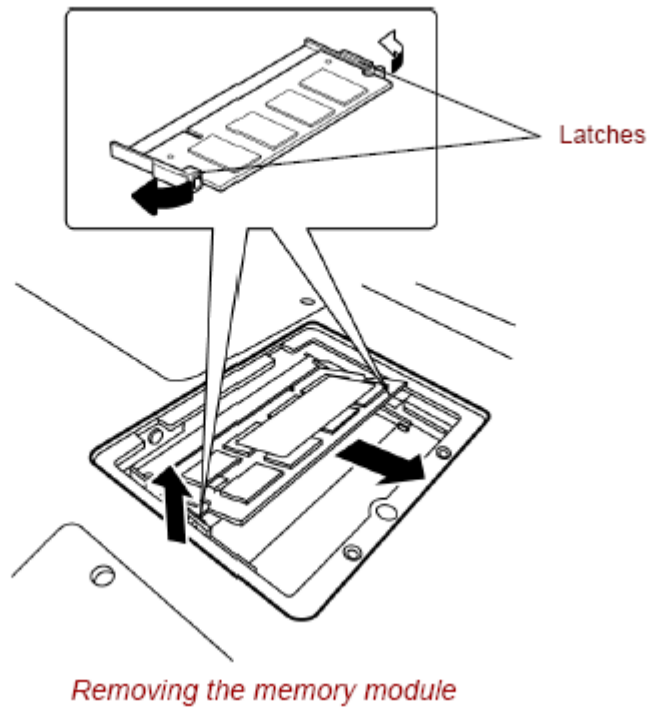

Figure 4-6-2 Remove a memory module2
3. Release the left and right latches to remove a memory module. (See Figure 4-6-2)